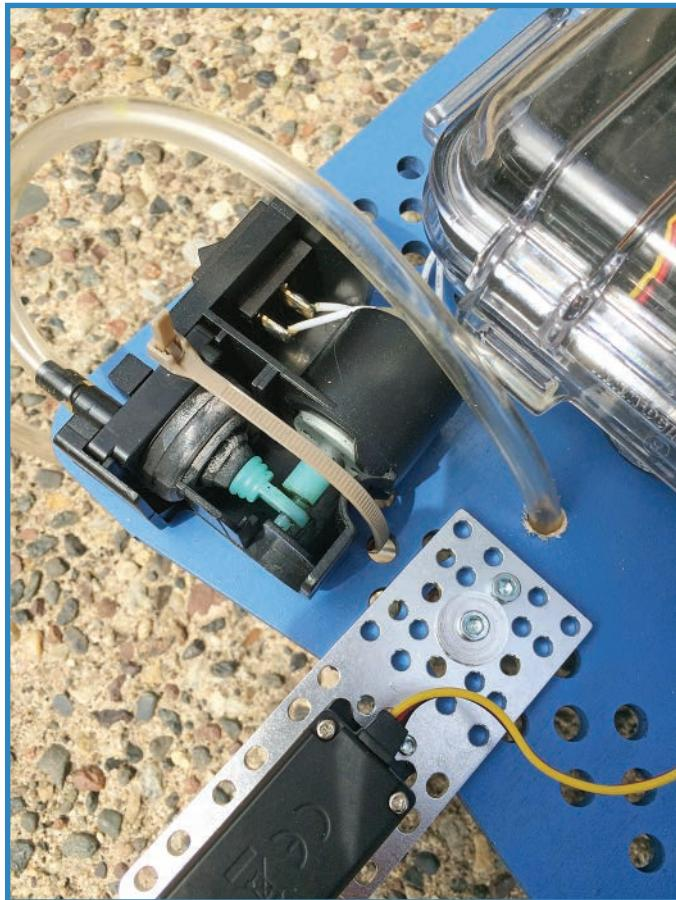

FIGURE 11.21 Slide the tube through a hole in the chassis.
9. Plug a tube into the pump's output and run it through a chassis hole—drill one as needed. Figure 11.21 shows how it should look.